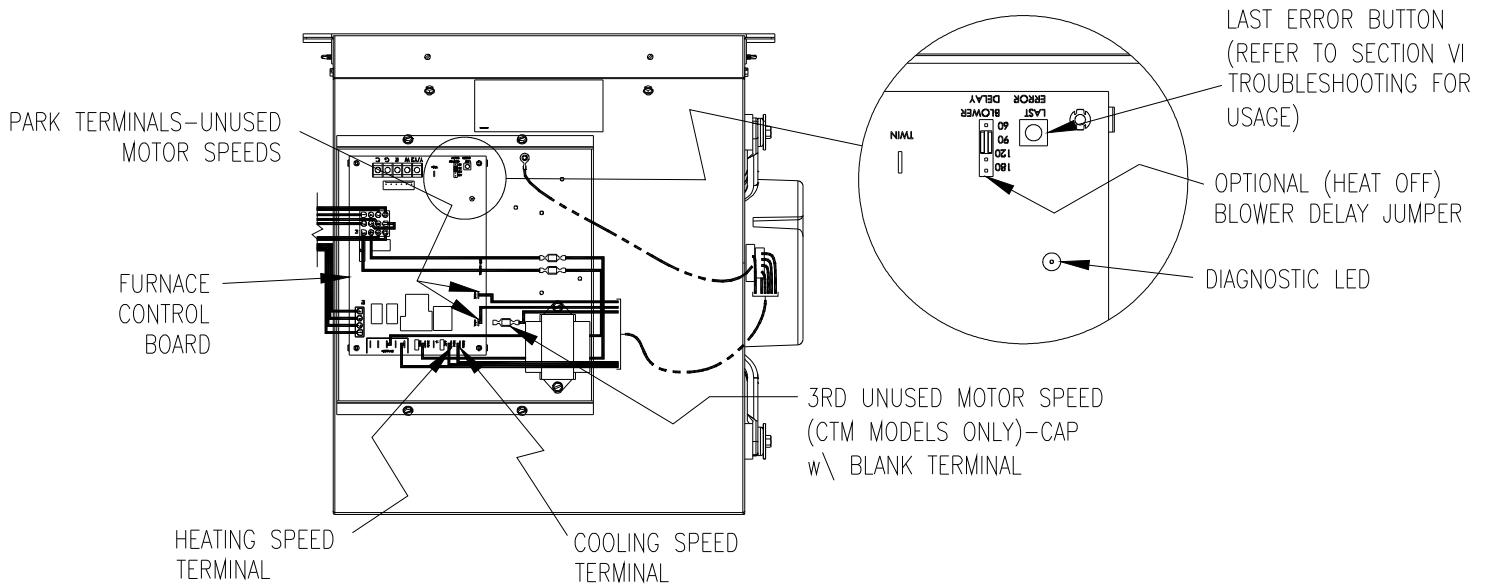

Figure 13
The ignition module on this furnace has designated terminals to control the operation of an electronic air cleaner and/or humidifier. These terminals provide line voltage (1.0 Amp @ 120VAC) for the control of these accessories (See Figures 13 & 14). The Humidifier is energized whenever the combustion inducer motor is energized. The EAC is energized whenever the circulation blower motor is energized for heating or cooling, but not for continuous fan.
- B. The optional blower delay jumpers on the integrated control (Figure 13) are used to determine the length of the heat delay-to-fan-off periods. The delay-to-fan-on period is preset and non-adjustable. The available options for the delay-to-fan-off are as follows: 60, 90, 120 & 180 sec.